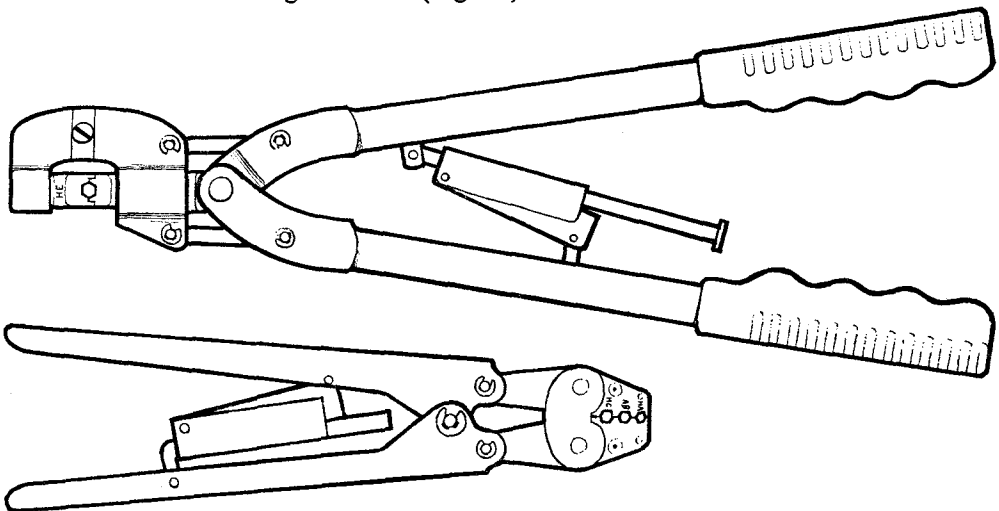

Fig. 16 Erma hand crimping pliers
20. Erma hand-crimping pliers. The kit supplied for service use contains two hand-crimping tools and a set of interchangeable dies (Fig. 16). The minor tool has a fixed head with three